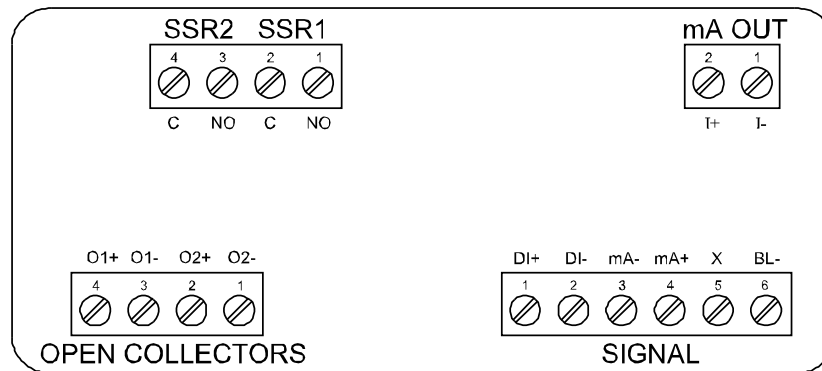

Figure 4. Connector Labeling for Fully Loaded PD6620
Signal connections are made to a six-terminal connector labeled SIGNAL on Figure 4. The following figures show a 4-20 mA current loop connected to the meter. The first figure shows the connection without the backlight and the second shows the connection with the backlight (the backlight may also be disabled/enabled in the `5.5.5TEM` menu). The meter is powered by the 4-20 mA current loop. There are no switches or jumpers to set up for the input. Setup and programming is performed through the front panel buttons.
Relay connections are made to two-terminal connectors labeled SSR1 and SSR2 in Figure 4. Each relay's C terminal is common only to the normally open (NO) contact of the corresponding relay.